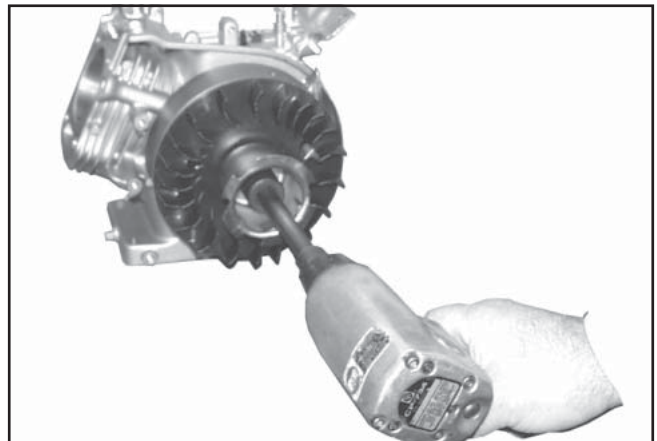

Figure 9-37. Removing Flywheel Nut Using an Impact Wrench.
1. Remove the flywheel retaining nut. See Figures 9-37 and 9-38.